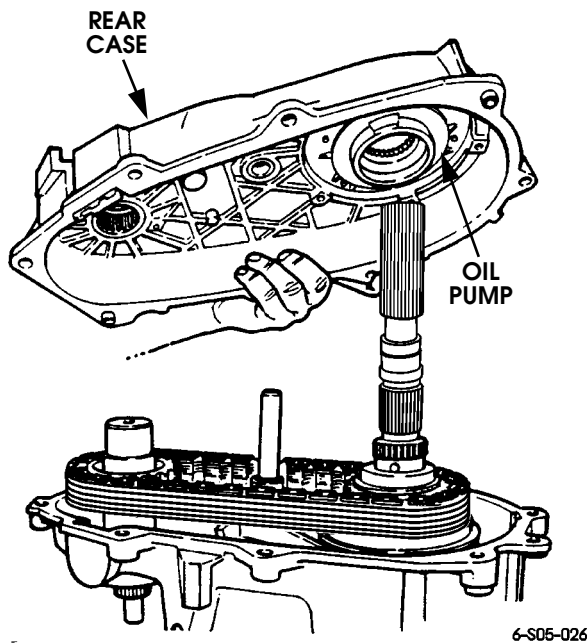

Figure 5-90: Rear Case Removal
8. Remove rear case attaching bolts and remove rear case (Figure 5-90).